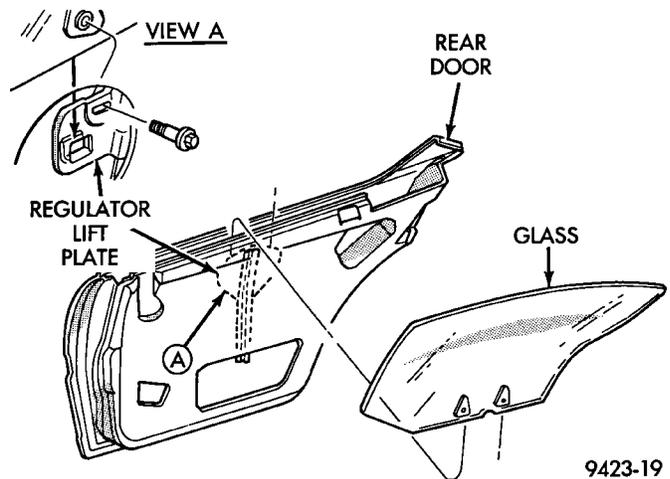

Fig. 47 Rear Door Glass
- (1) Remove door trim panel and water shield.
- (2) Remove inner door belt weatherstrip.
- (3) Loosen door glass jounce bumper.
- (4) Lower door glass to bottom of door.
- (5) Remove nuts holding door glass to window regulator lift plate (Fig. 47).
- (6) Disengage door glass from regulator.
- (7) Lift door glass upward out of the opening at the top of door.